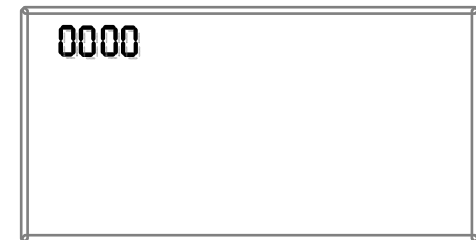

Figure 4 – Room Number Digits
1. Simultaneously press SW9-LINK and the DOWN button on front of the 12400x thermostat. Four digits will be displayed in the top left corner of the display (Figure 4).